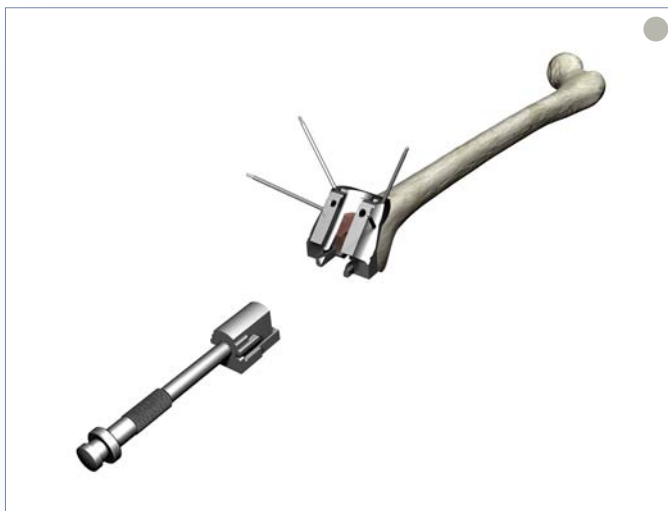

Figure 31
- ▶ Using a Mallet, impact the Compactor until it reaches the end-stop and is fully seated in the Notch Block (Figure 31).